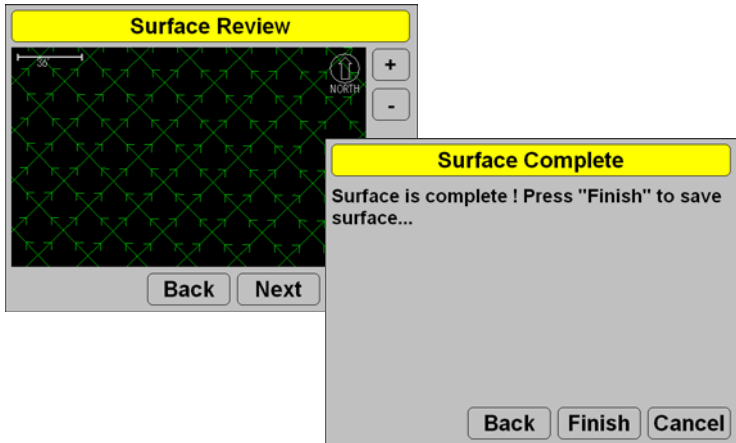

Figure 3-13. Review Surface and Save
11. Press **Next** to review the created surface plane (Figure 3-13).
12. Press **Next** then **Finish** to save the created file and complete the plane surface (Figure 3-13).